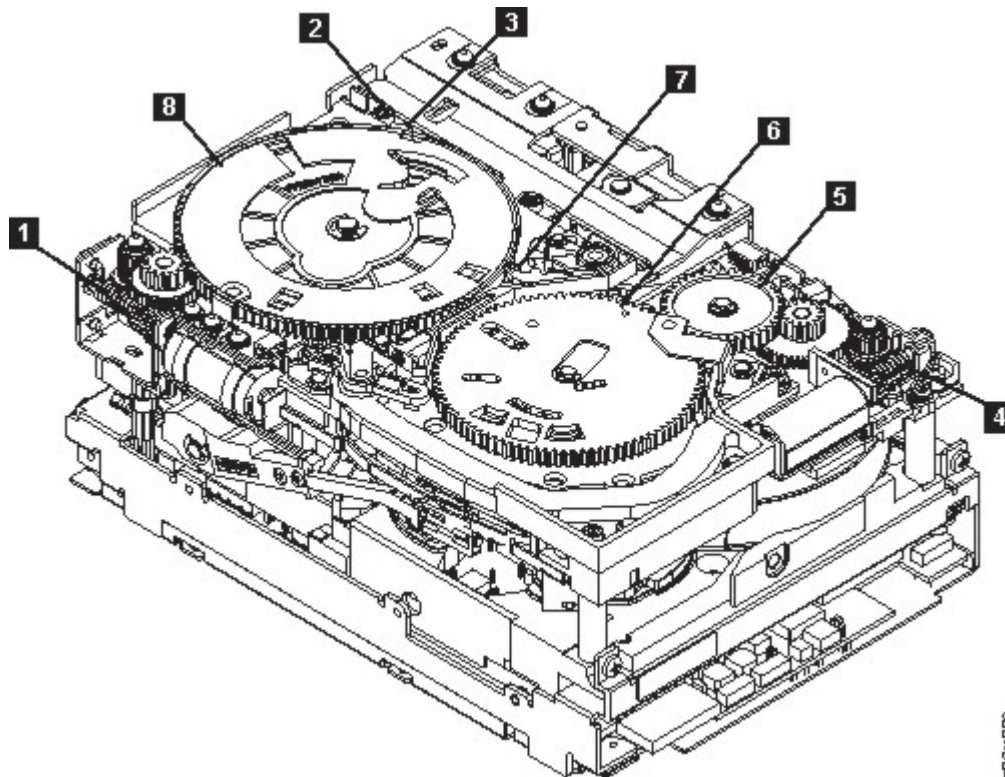
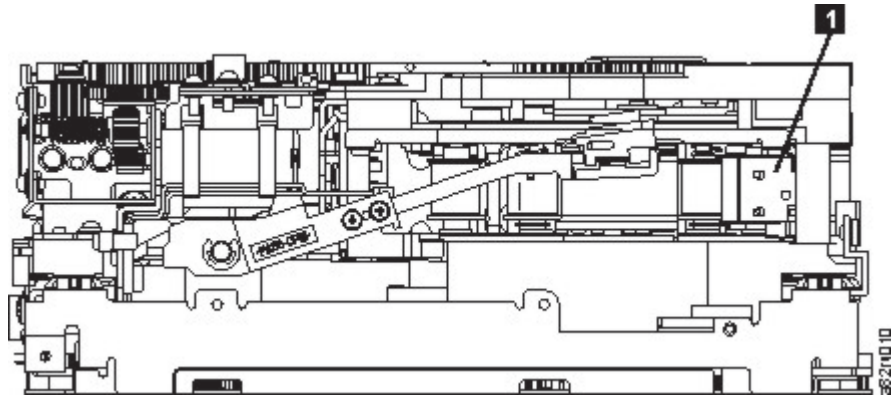

Figure 118. Drive with cover removed to reveal gear train.
Figure 119. Leader Block Assembly (LBA)
5. Locate the threader motor worm gear (4 in Figure 118 on page 194) on the rear of the drive. Use your finger to rotate the threader motor worm gear and slowly rotate the threader mechanism gear (6 in Figure 118 on page 194) clockwise.
- This action rotates the threader motor worm gear (4 in Figure 118 on page 194) clockwise, drawing the LBA into the cartridge.
6. As the tape leader block assembly (LBA) is secured in the cartridge, you hear the LBA retention spring clips click into place. If you do not hear the click, continue rolling until the threader motor worm gear (**4** in Figure 118 on page 194) stops. The LBA is in the correct position.
- Loader mechanism gear (**6** in Figure 118 on page 194) nearest the front of the drive that actuates the cartridge loader mechanism.
- Position of the rotate stub (**3** in Figure 118 on page 194).
- Front loader motor worm gear (**1** in Figure 118 on page 194). Rotating this gear allows the loader mechanism gear (**8** in Figure 118 on page 194) to turn.
8. Rotate the loader motor worm gear (**1** in Figure 118 on page 194) to turn the loader mechanism gear (**6** in Figure 118 on page 194) counterclockwise. Continue turning until the rotator stub (**3** in Figure 118 on page 194) loses contact with the lever (**7** in Figure 118 on page 194). This action releases the LBA leader pin.
9. Rotate the threader motor worm gear (**4** in Figure 118 on page 194) to turn the threader mechanism gear (**6** in Figure 118 on page 194) counterclockwise. This action moves the LBA out of the cartridge and past the read/write head. Stop this rotation when the LBA is near the tape guide roller nearest the rear of the drive that is shown as **1** Figure 119 on page 195.
10. Continue rotating the loader motor worm gear (1 in Figure 118 on page 194) until the rotator stub (3 in Figure 118 on page 194) is positioned as shown. Notice that the rotator stub (3 in Figure 118 on page 194) is nearly aligned with the cartridge loader tray guide bearing (2 in Figure 118 on page 194).